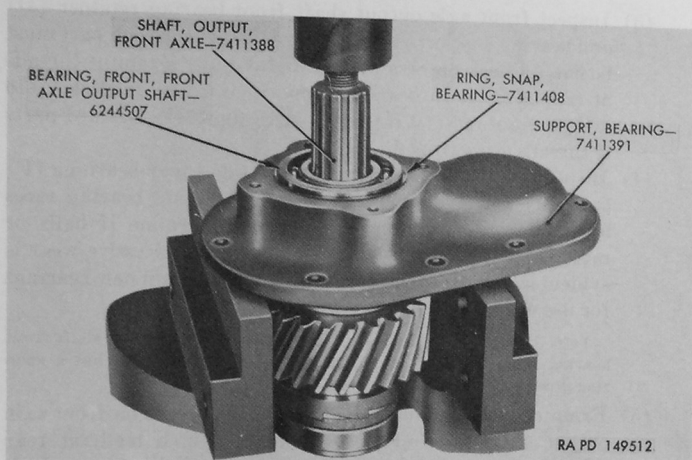

Figure 69. Pressing front axle output shaft out of front bearing.
a. Remove four  $\frac{3}{8}$ -18 x  $1\frac{1}{8}$  cap screws (AH) and  $\frac{3}{8}$ -inch external-teeth lock washers (AG) which attach front axle output shaft front bearing retainer (AJ) to bearing support (AX); then remove retainer assembly and retainer gasket (AR) from bearing support.
b. Remove oil seal (AK) from bearing retainer.
c. Position output shaft and bearing support assembly in arbor press and press front axle output shaft assembly out of front bearing (fig. 69).